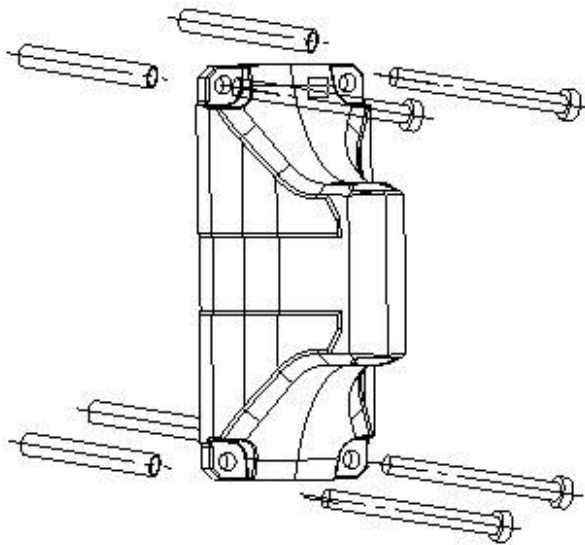

Fig.1
4. Fix the bracket by four self-tapping screws accordingly. (Fig.1)